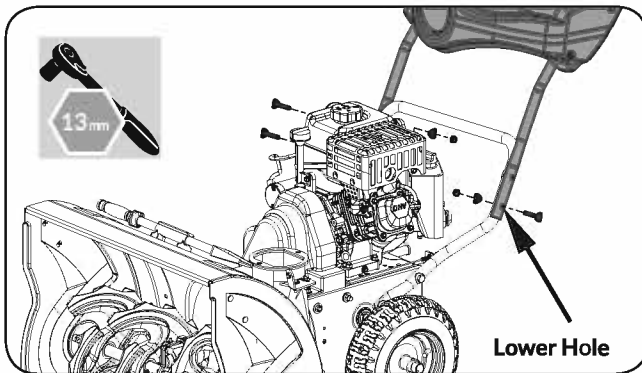

Figure 2b
5. Raise the upper handlebars into operation position and slide the three bolts and washers through the two holes on the right side of the handlebar and the left lower hole. Secure them by finger tightening the nuts. Leave the upper hole on the left hand side without a bolt. This will be used to secure the directional chute control assembly later. (See **Figure 2b**)